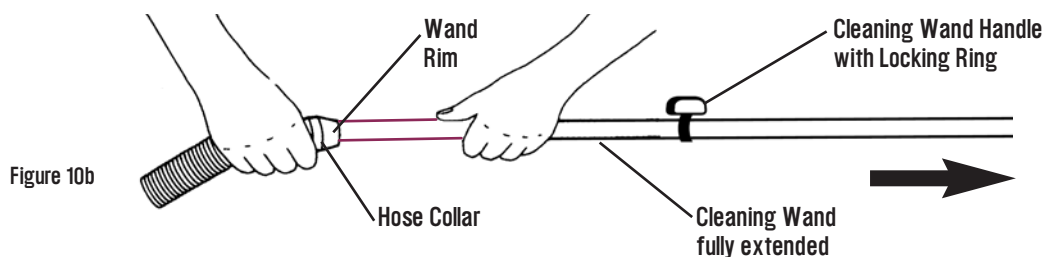

Figure 10b
4. Slide the Telescopic Cleaning Wand out of the Hose Collar by gripping the Collar in one hand and the Cleaning Wand Handle in the other. Pull to extend. (See Figure 10b.)